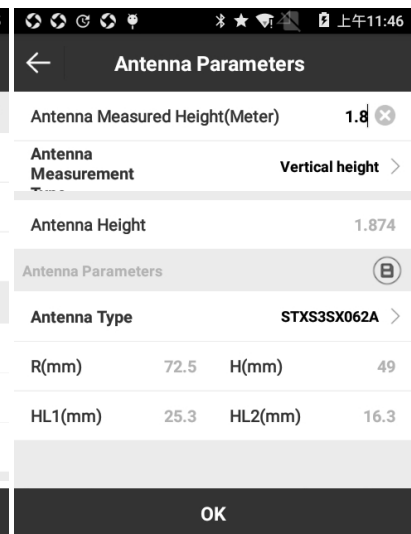
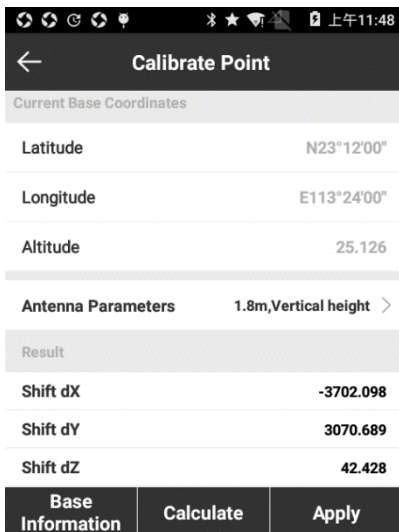
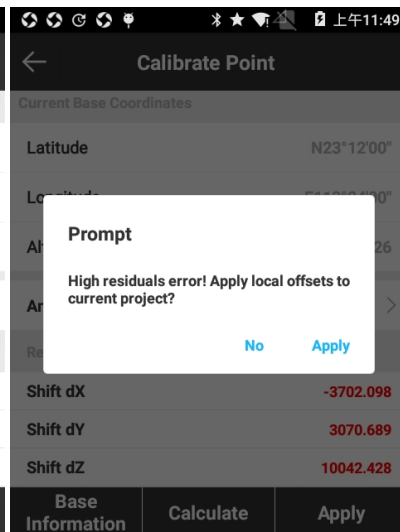
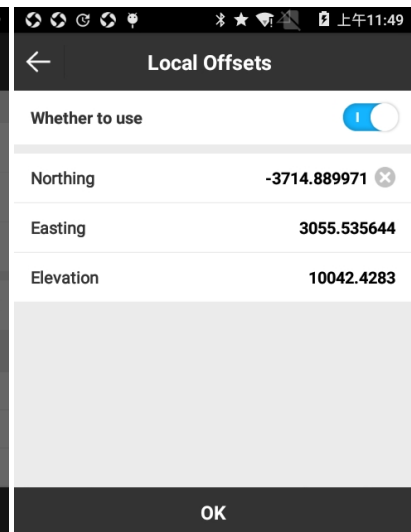

Figure 3.4-3
Figure 3.4-4
Figure 3.4-5
Figure 3.4-6
(2) Input the known points, i.e. coordinate before base change. There are two ways to input coordinate: one is to select existing base coordinate from Points Library, the other one is to directly input base coordinate x, y, h before base change. Press [Antenna Parameters] to set antenna parameters as shown in Figure 3.4-3.
(3) Input Antenna Measured Height, set Antenna Measurement Type (Vertical height, Height to phase center, Slant height, Slant height to altimetry), and Antenna Type is automatically selected according to current connected receiver, and press [OK] to return to Base Point Calibration interface.
(4) Press [Calculate] to check calculation result as shown in Figure 3.4-4. Press [Apply] and it would directly apply the calculation result. If the calculation result is in red font, it means translation parameter over range (longitude difference over 1 degree or latitude difference over 1 degree or height difference over 1000), in which press [Apply] and there would pop up a prompt as shown in Figure 3.4-5 saying “High residuals error! Apply local offsets to current project?”. If press [Apply] it would jump to Local Offsets interface as shown in Figure 3.4-6 to display the result. Press return key upper right and pops up prompt to ask whether to apply calculation result, and after selection it returns to Base Point Calibration interface.